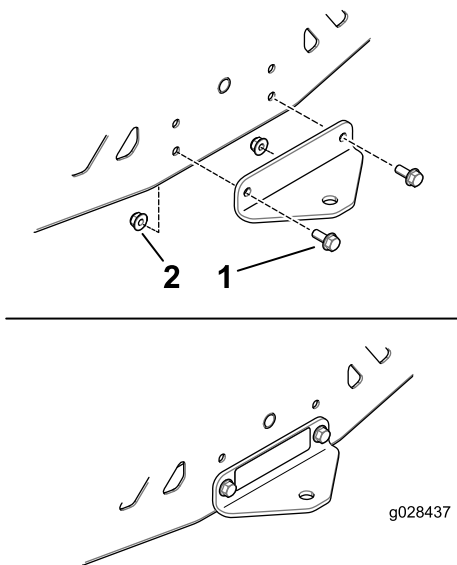

Figure 2
1. Install the bracket to the frame as shown in Figure 2.